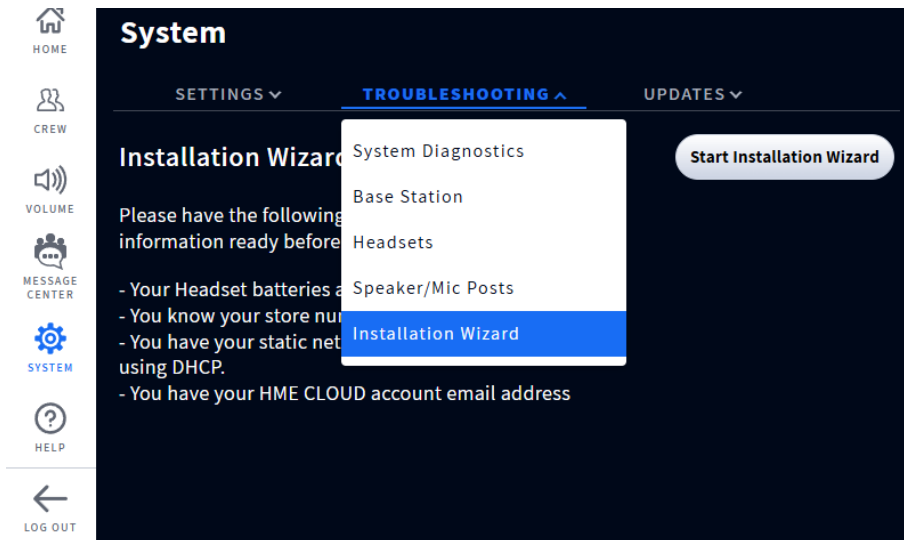

Fig. 3.7
**Note:** If you accidentally exit the Installation Wizard and need to return to it. Log in to the system, go to the SYSTEM page, and under the TROUBLESHOOTING tab, select "Installation Wizard" from the drop-down list. Tap the "Start Installation Wizard" button to begin (see Fig. 3.7).